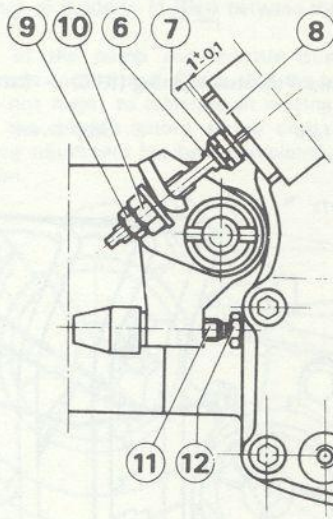

Fig 3.47 Enrichment adjustment (Sec 42)
4 Refer to Fig. 3.47, the nut (7) at the top of the rod operating the enrichment lever must be set so that there is a clearance of  $0.004 \pm 0.004$  in (1.0 ± 1.0 mm) between the nut and the housing when the thermostat temperature is at 77° F (50° C). It will be necessary to grip the rod with a pair of pliers or a suitable key whilst the nut is turned using a 10 mm spanner.
In new and reconditioned KF6 engines a washer about 0.02 in (0.5 mm) thick is fitted under the enrichment lever stop (12) (Fig. 3.47). This serves to provide a slightly richer mixture during the running-in period, and should be removed after 600 miles (1,000 km).